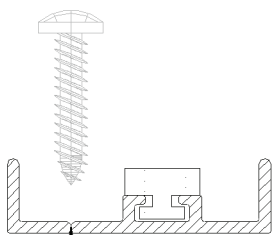
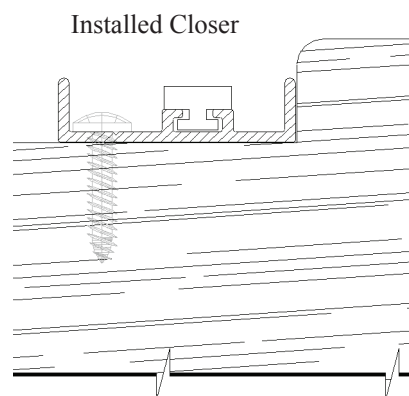

Figure 4
Figure 5
Drill two (2) 5/32" holes in the closer (#R5600), approximately 4" from each end, using the mounting screw groove (Figure 4). Install Closer using #6 x 1" pan head screws provided, in the same position the hinge was installed, in the opposite jamb (Figure 5).